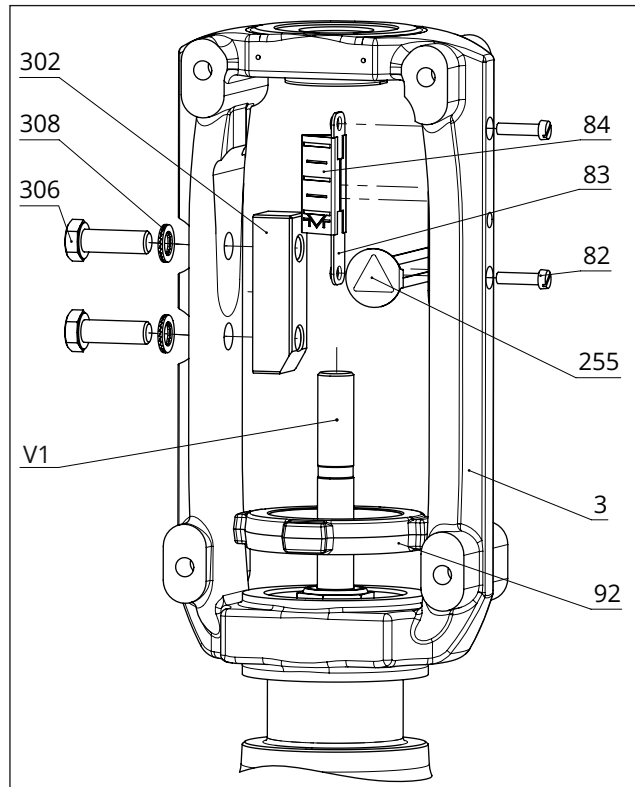
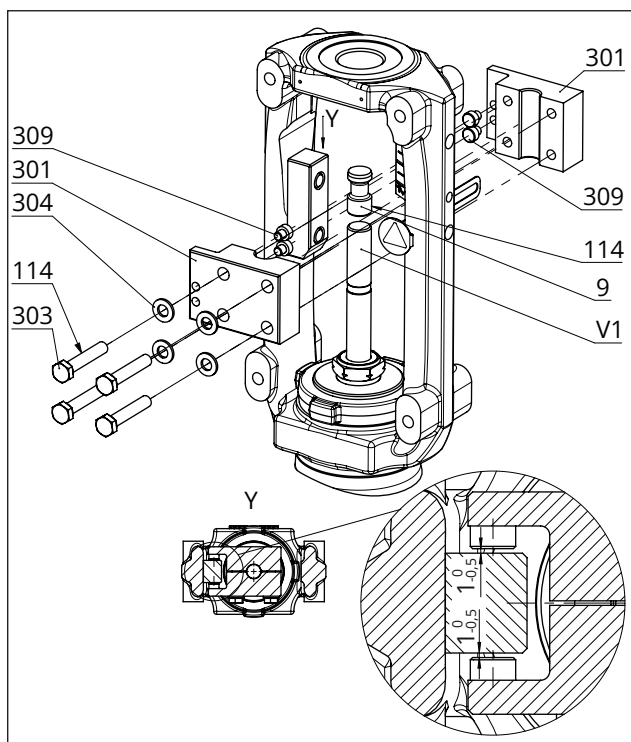

Fig. 24: Overview of yoke assembly with travel indicator scale in the special version
Fig. 25: Overview of anti-rotation fixture assembly in the special version
See Fig. 24 and Fig. 25
- There is a nominal clearance of 0.5 to 1 mm between the sliding washers and their contact surface on the yoke on each side (see detailed view Y in Fig. 25).